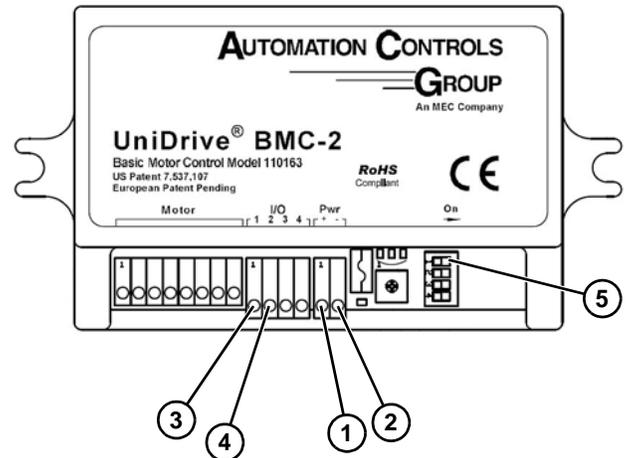

Figure 93
Wire +24 DC (Figure 93, item 1) and DC ground (Figure 93, item 2) to the driver's power plug.
Supply an PNP input to Smart input 1 (Figure 93, item 3) to run motor.
- Dynamically, wire a 2nd PNP input to Smart input 2 (Figure 93, item 4). Only one Smart input can be active at a time.
- One time, switch state of dip switch 1 (Figure 93, item 5) on the driver board. Dip Switches are only read at start up. After a change is made, cycle power to the unit.